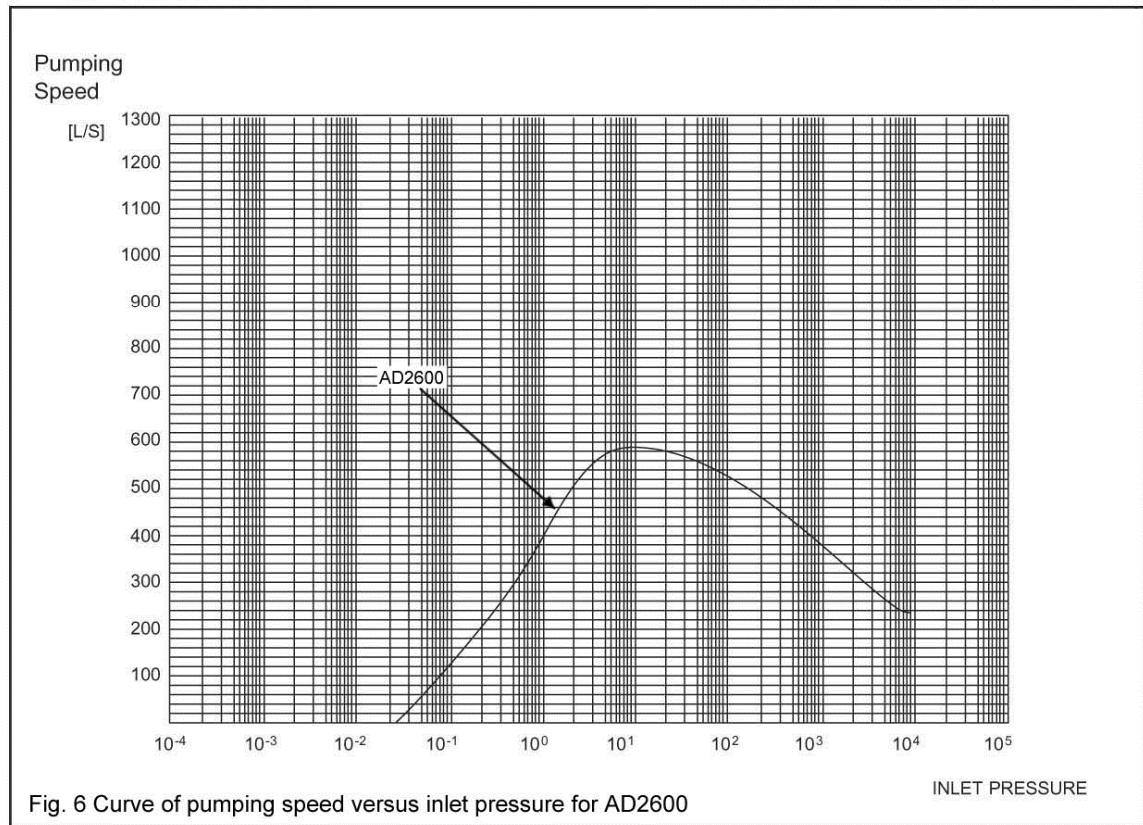

Fig. 6 Curve of pumping speed versus inlet pressure for AD2600
- Figure 6: Capacity curve for AD2600.